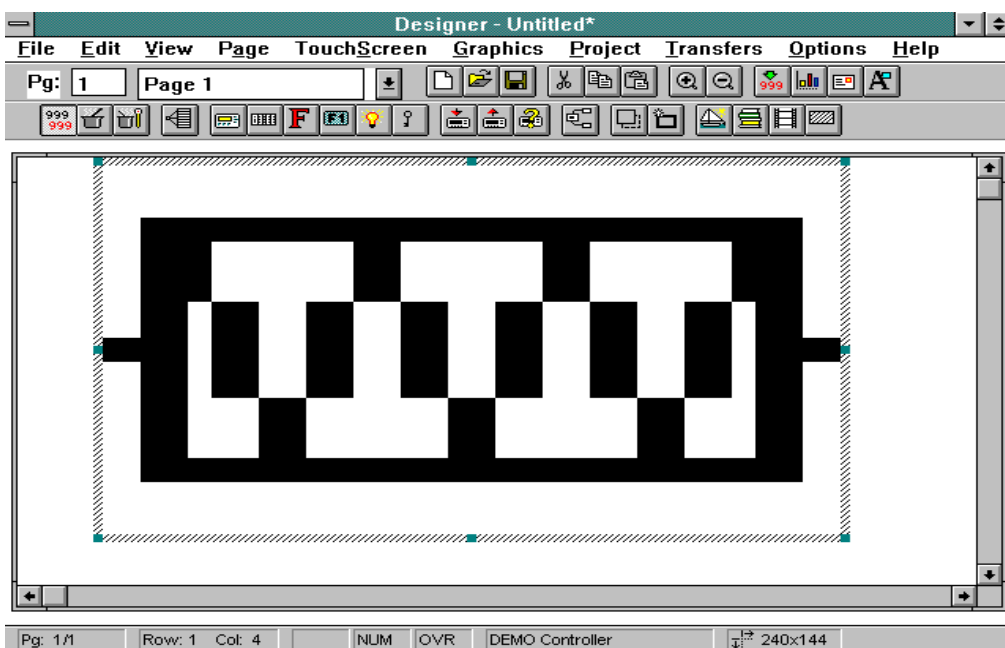

Figure 10-2
6. Figure 10-2 shows how the bitmap file will look after it is imported into the project file.